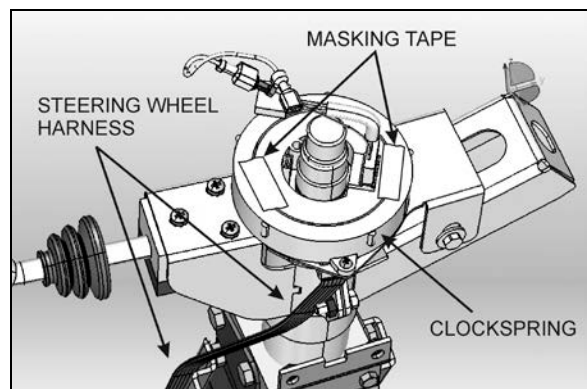

FIGURE 12: LOCKING THE CLOCKSPrING IN PLACE
7. Once the steering wheel is removed, it is important to block any rotating movement of the clockspring in order to prevent it from losing its neutral position. Use two pieces of masking tape to lock it in place (Fig. 12).